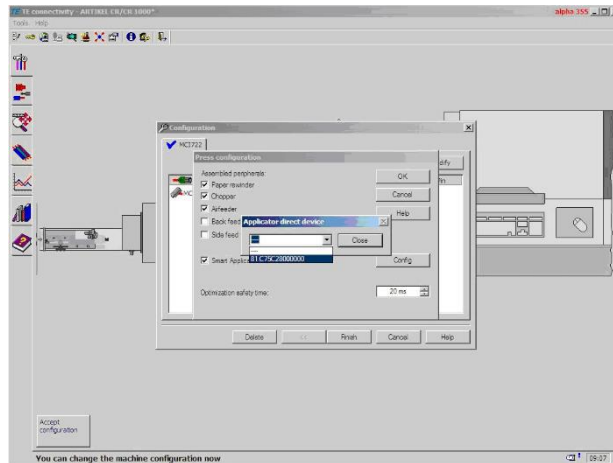

Figure 16
- For an applicator direct connection, select the device ID from the list. See Figure 16. The USB to one-wire adapter must be plugged in and the device drivers installed **before** the list will show the adapters.